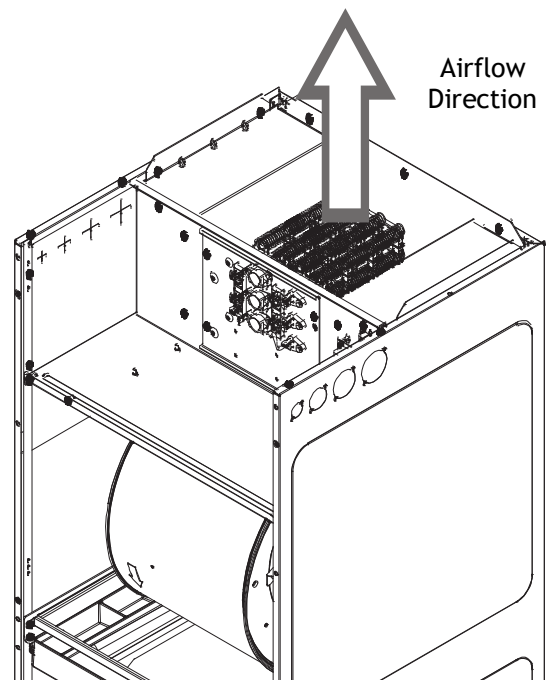

FIGURE 1
2. Remove and retain the four (4) screws securing the cover plate. Remove and discard the cover plate.
4. Slide the electric heat kit into the opening in the air handler, making sure the direction of airflow decal attached to the electric heat face plate is pointing in the correct direction, and secure the electric heat face plate using the screws removed in Step 2. Use caution to not bend or damage the electric heating elements, the limit switches or fuses during this process. See Figure 1.